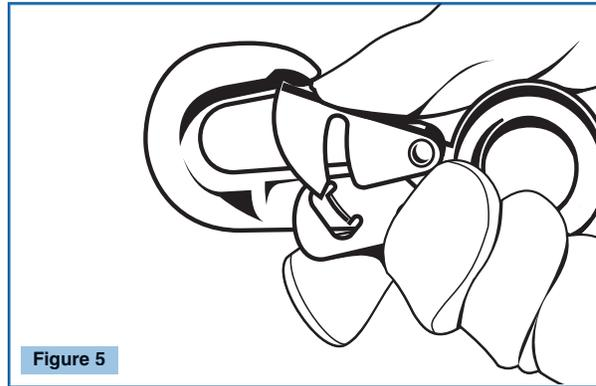

Figure 5
**5. Inspect the snap-hooks and connecting hardware** to be sure they are not distorted or cracked. Be certain the hook keepers are clean, free of burrs, functioning properly, and are not bent. (See Fig. 5)